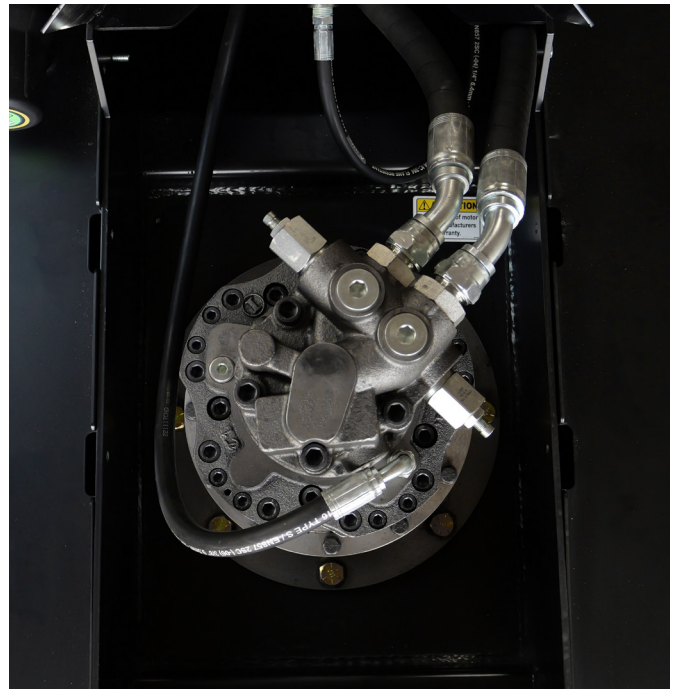

Figure 7
2. Check for any oil on top of the deck near the direct drive [Figure 7]. If oil is visible under or on top of the cutter deck, check the motor and direct drive for leaks. Contact Blue Diamond® Product Support or your local dealer for assistance.